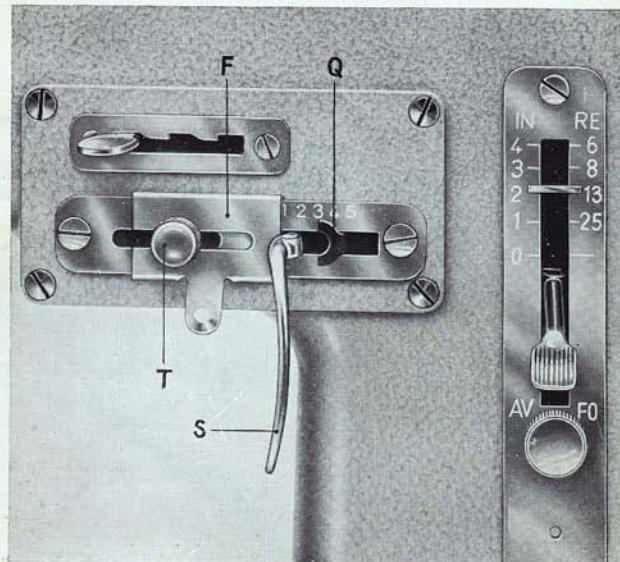

Fig. 30
- a) Loosen button « T » (fig. 30) and bring index « Q » on mark « 1,5 »;
- b) With the zig-zag stitch lever against plate « F » (Fig. 30), make the first row of stitches (Fig. 32, Operation I) going as far as to reach the limit marked by the guide.